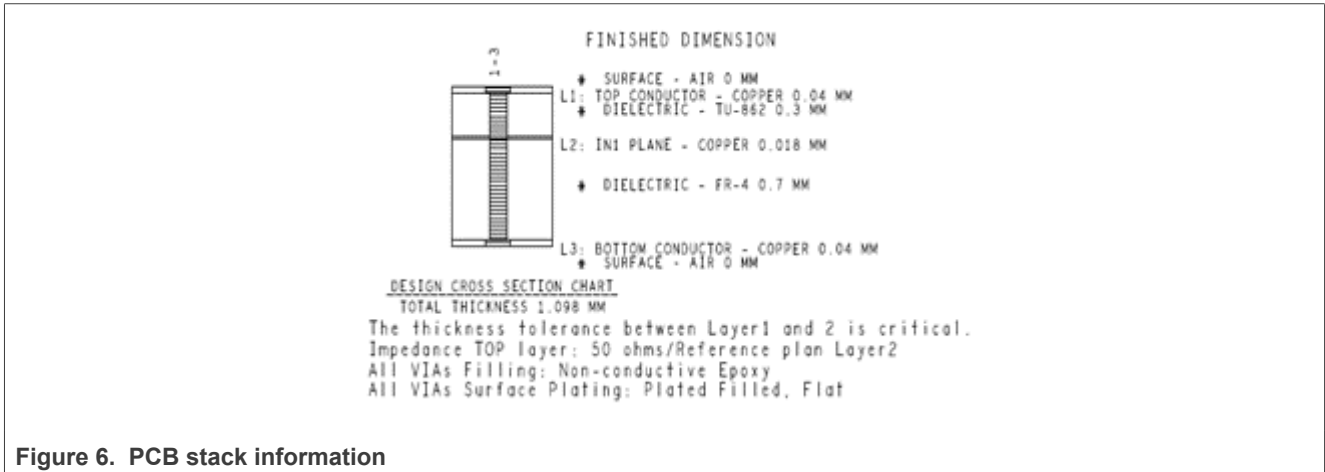
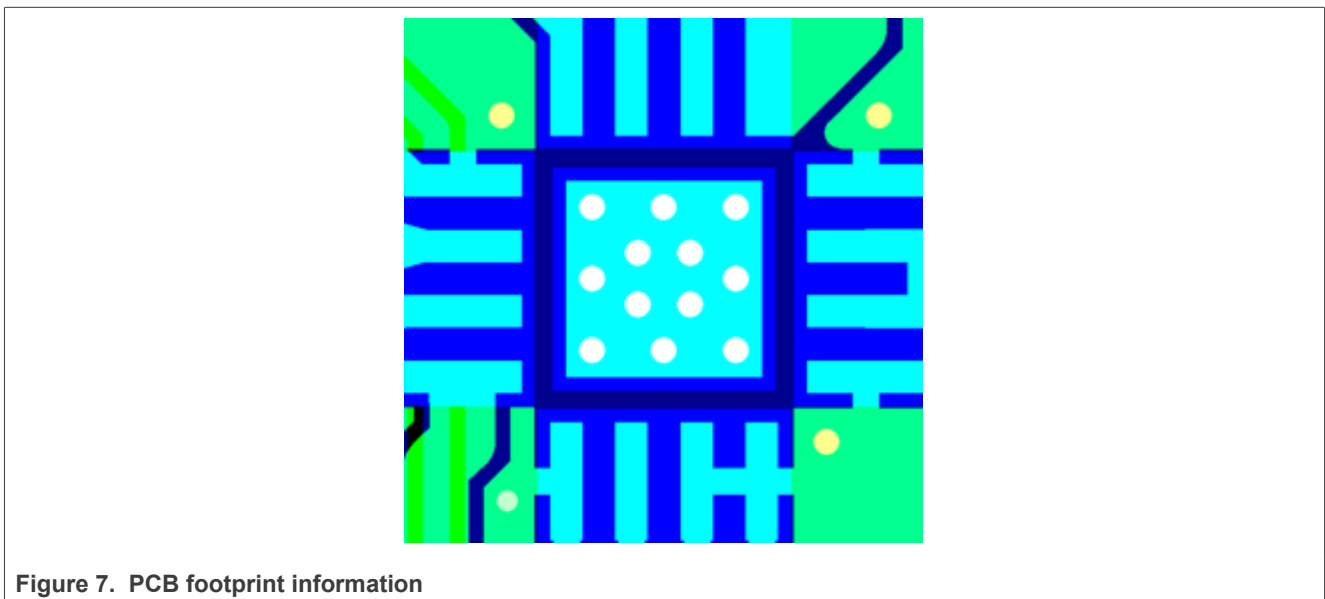

Figure 6. PCB stack information
Figure 7. PCB footprint information
- Proper grounding of the GND pins is also essential for good RF performance. Either connect the GND pins directly to the ground plane or through vias, or do both, which is recommended. The layout and component placement of the BTS6403U evaluation board is given in Figure 6
The PCB material used to implement the pre-driver circuit is a 0.3 mm TU-862 low loss printed circuit board which is merged to a 0.7 mm FR4 layer for mechanical stiffness. See Figure 6. The official drawing of the recommended footprint can be found via following link SOT758-1.pdf. When micro strip coplanar PCB technology is used it is recommended to use at least 12 ground-via holes of 300um in the ground plane under the device, this is also used on the EVBs as shown in Figure 7.